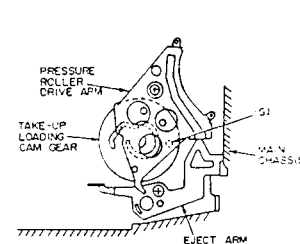

Fig. 3-3
- 4) Install the take-up loading cam gear into the main chassis so that hole (G) of the take-up loading cam gear and the hole in the main chassis overlap each other at this time. (See Fig. 3-3)